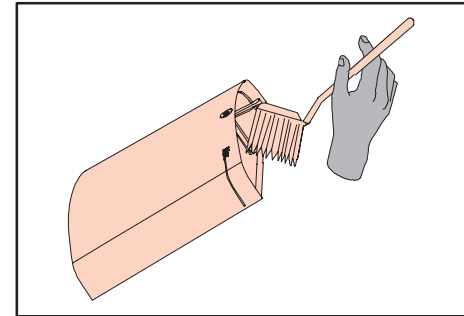

Fig. 43 Cleaning the removable water tank
1. Clean the inside of the water tank with a brush (fig. 43) and a food-grade cleaning agent (e.g. Cleaner).